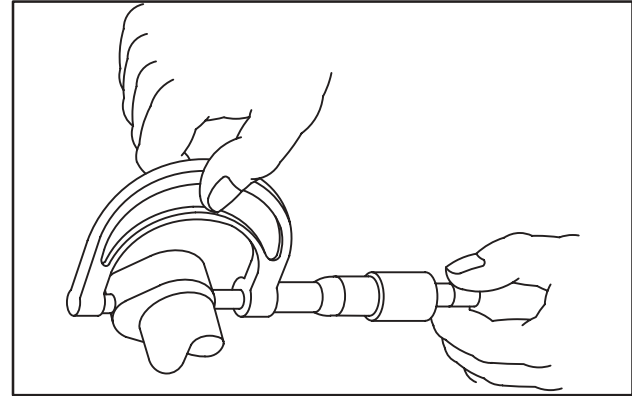

Fig. 11 – Checking Camshaft Lobes
1. Measure camshaft lobe height, Fig. 11. If lobes are not to specification, replace the camshaft.